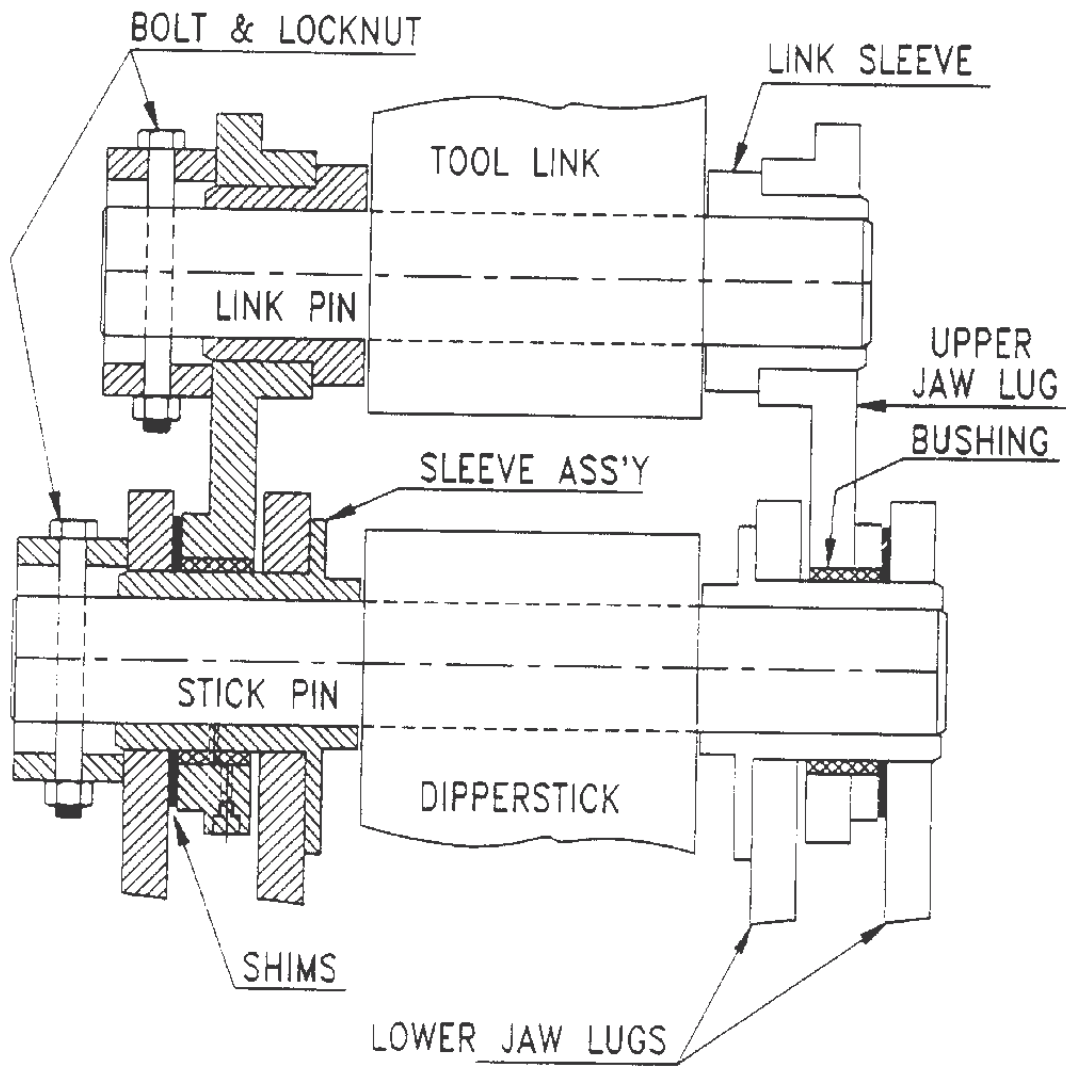

FIGURE 3-3
1. Position the carrier dipper stick between the stickpin sleeve assemblies and install the stickpin. See figure 3-3. Install the cap screw through the lower jaw lug and stickpin. Install a locknut on the cap screw.
2. Position the tool link between the two (2) link sleeves and install the link pin. See figure 3-3. Install the cap screw through grapple lug and link pin then install the locknut on the cap screw.